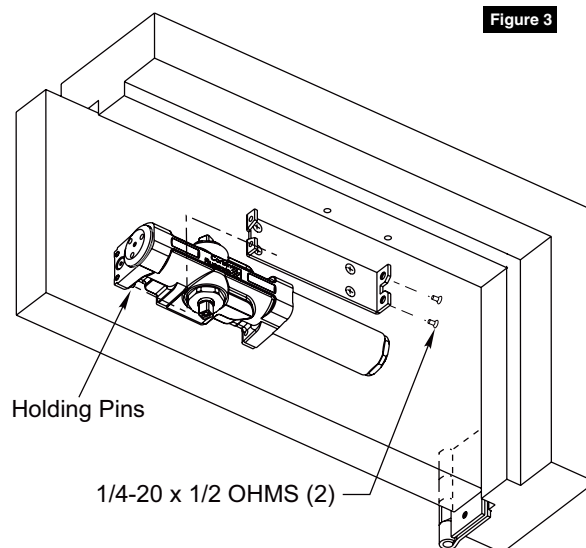

Figure 4
3. Mount Closer Body to Closer Bracket. (Figure 4)